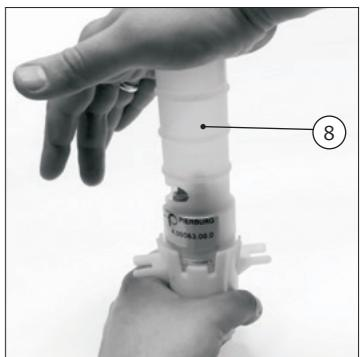

Abb. 4/Fig. 4/Puc. 4/图4
- Place the tool (8) onto the pressure side of the pump (see Fig. 4).